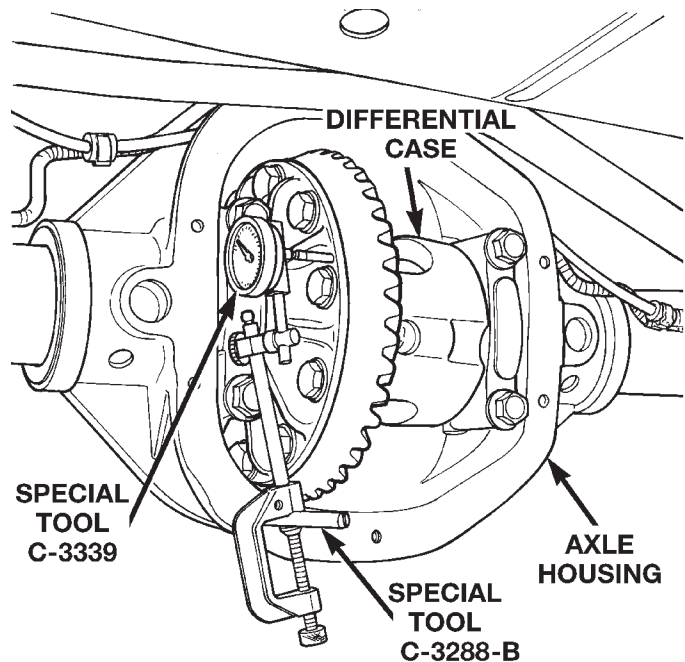

Fig. 72 Differential Side play Measurement
- (6) Install the marked bearing caps in their correct positions. Install and tighten the bolts.
- (7) Thread guide stud C-3288-B into rear cover bolt hole below ring gear (Fig. 72).
- (8) Attach dial indicator C-3339 to guide stud. Position the dial indicator plunger on a flat surface on a ring gear bolt head (Fig. 72).
- (9) Push firmly and hold differential case to pinion gear side of axle housing.
- (10) Zero dial indicator face to pointer.
- (11) Push firmly and hold differential case to ring gear side of the axle housing.
- (12) Record dial indicator reading.
- (13) Add the dial indicator reading to the starting point shim thickness to determine total shim thickness to achieve zero differential end play.
- (14) Add 0.008 in. (0.2 mm) to the zero end play total. This new total represents the thickness of shims to compress, or preload the new bearings when the differential is installed.
- (15) Rotate dial indicator out of the way on guide stud.
- (16) Remove differential case, dummy bearings, and starting point shims from axle housing.
- (17) Install pinion gear in axle housing. Install the yoke and establish the correct pinion rotating torque.
- (18) Install differential case and dummy bearings in axle housing (without shims) and tighten retaining cap bolts.
- (19) Position the dial indicator plunger on a flat surface between the ring gear bolt heads (Fig. 72).
- (20) Push and hold differential case toward pinion gear.
- (21) Zero dial indicator face to pointer.
- (22) Push and hold differential case to ring gear side of the axle housing.